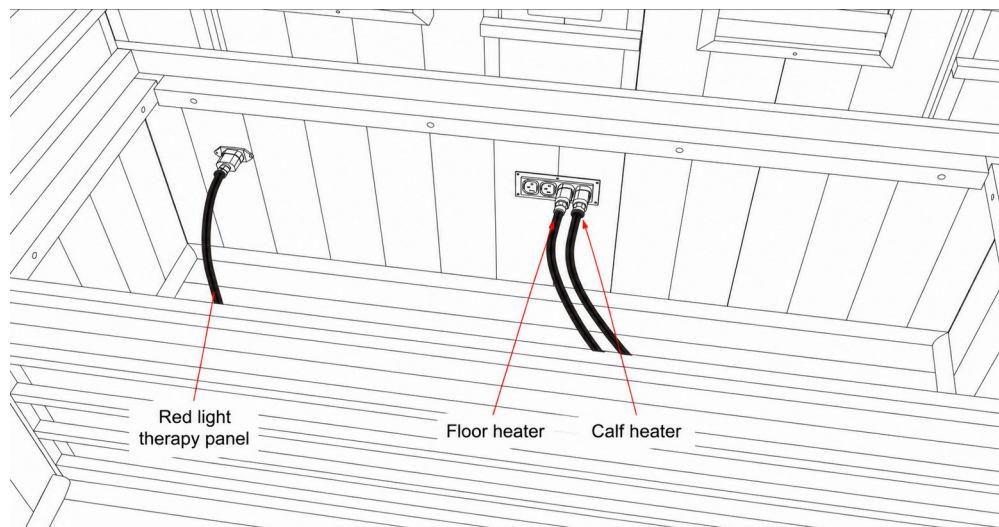

Figure 13. Floor level connections: the red light therapy supply cord on the left, and the floor heater and calf heater cords in the three-socket outlet.
- Connect the floor heater cord and the calf heater cord to the three-socket outlet at the base of the Back Panel (B), as shown in Figure 13.
- Connect the red light therapy supply cord on the left side of the floor to the single red light therapy outlet on the left side of the Back Panel (B).